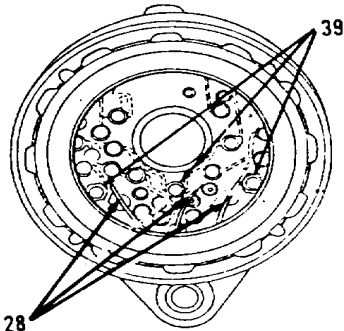

Figure 4-25.
- 22. Remove field coil (24) from inner frame (27). Remove all epoxy putty from inner frame (27) groove.
- 23. Remove ring (25) and bearing (26).
- 24. Unsolder three stator (28) wires from three diode assembly (39, Figure 4-25) terminals.